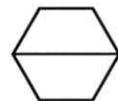

Figure 33. Instrument Tag
4. Determine the type of device indicated by the tag in figure 33.